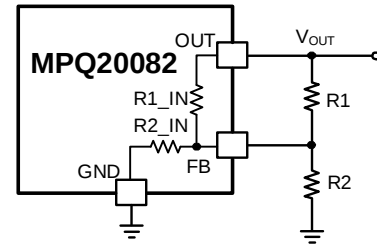

Figure 7: FB Divider for the Fixed-Output Version
For the fixed-output version, V_{OUT} can also be adjusted by adding an external resistor divider. When choosing an external divider, be sure to take the internal feedback (FB) resistor divider into consideration (see Figure 7).